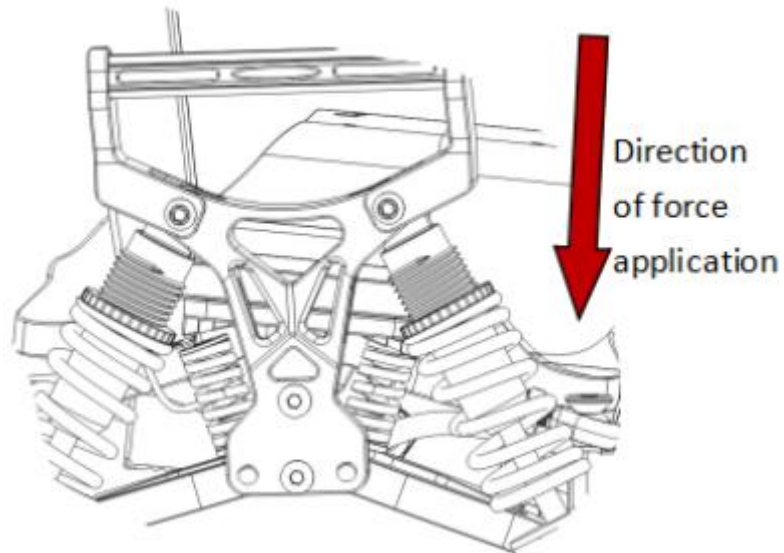
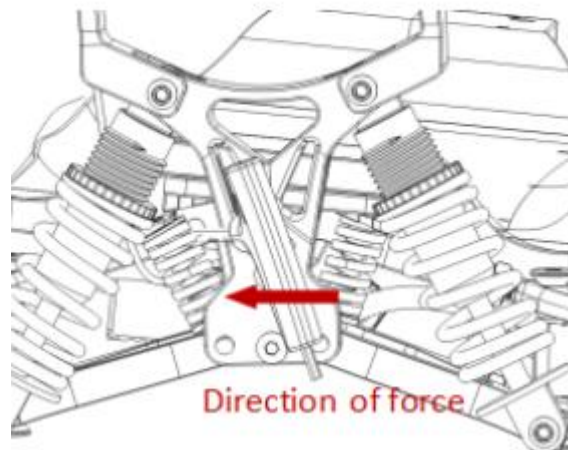

Figure 1
Figure 2
**Step 2:** Stand on the board surface and apply force in the opposite direction where the damper needs to be removed until the damper and base reach the state shown in Figure 1. Then insert a tool into the gap of the damper and exert outward force until the damper falls off as shown in Figure 2. Subsequently, remove the damper on the other side using the same method.